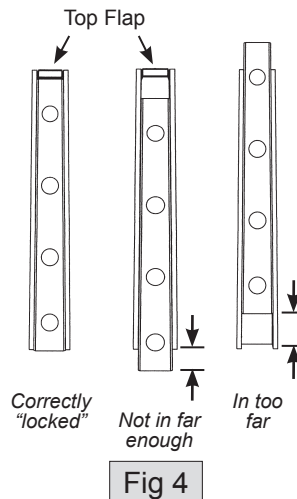

Fig 4
5. Use your fist or palm of your hand to gently pound the back cushion down until the interlocking wedges are "locked" together. You may find that a rubber mallet is helpful for this step, but be sure to protect the fabric with a towel, clean cardboard, or other such material. A standard hammer is not recommended. **Important: Wedges are correctly "locked" when the inner wedge comes into contact with the top flap of the outer wedge, and the bottom edges align, as shown in figure 4. Avoid excessive force or damage to the wedges may occur.**
**TROUBLESHOOTING TIP:** If back cushion is not level, check that wedges on both sides are correctly "locked" as shown in figure 4.